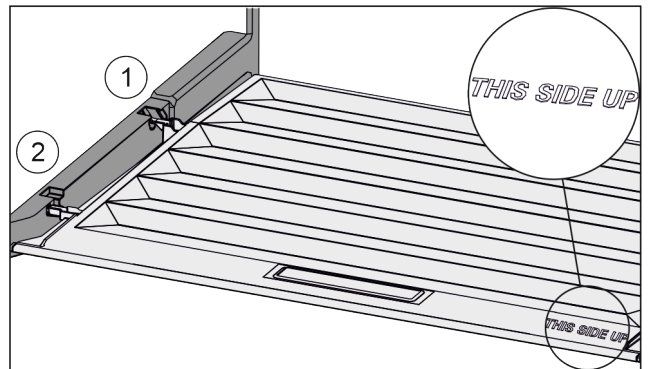

Fig. 105
- Insert the lip of the cover over the opening of the rear bracket Fig. 105 (1) and click into place Fig. 105 (2).